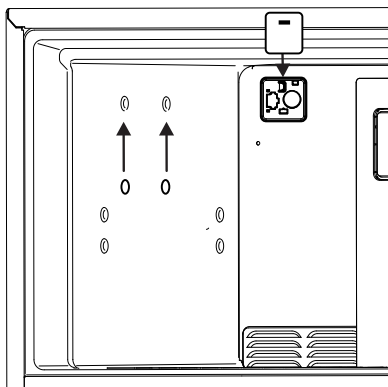

Figure 3
3. Use a plastic putty knife to remove the 2 plugs on the left wall of the freezer compartment. Discard the plugs. See Figure 3.
4. Remove the harness connector cover, where the ice maker will plug in, with a flathead screwdriver. Discard the harness connector cover. See Figure 3.